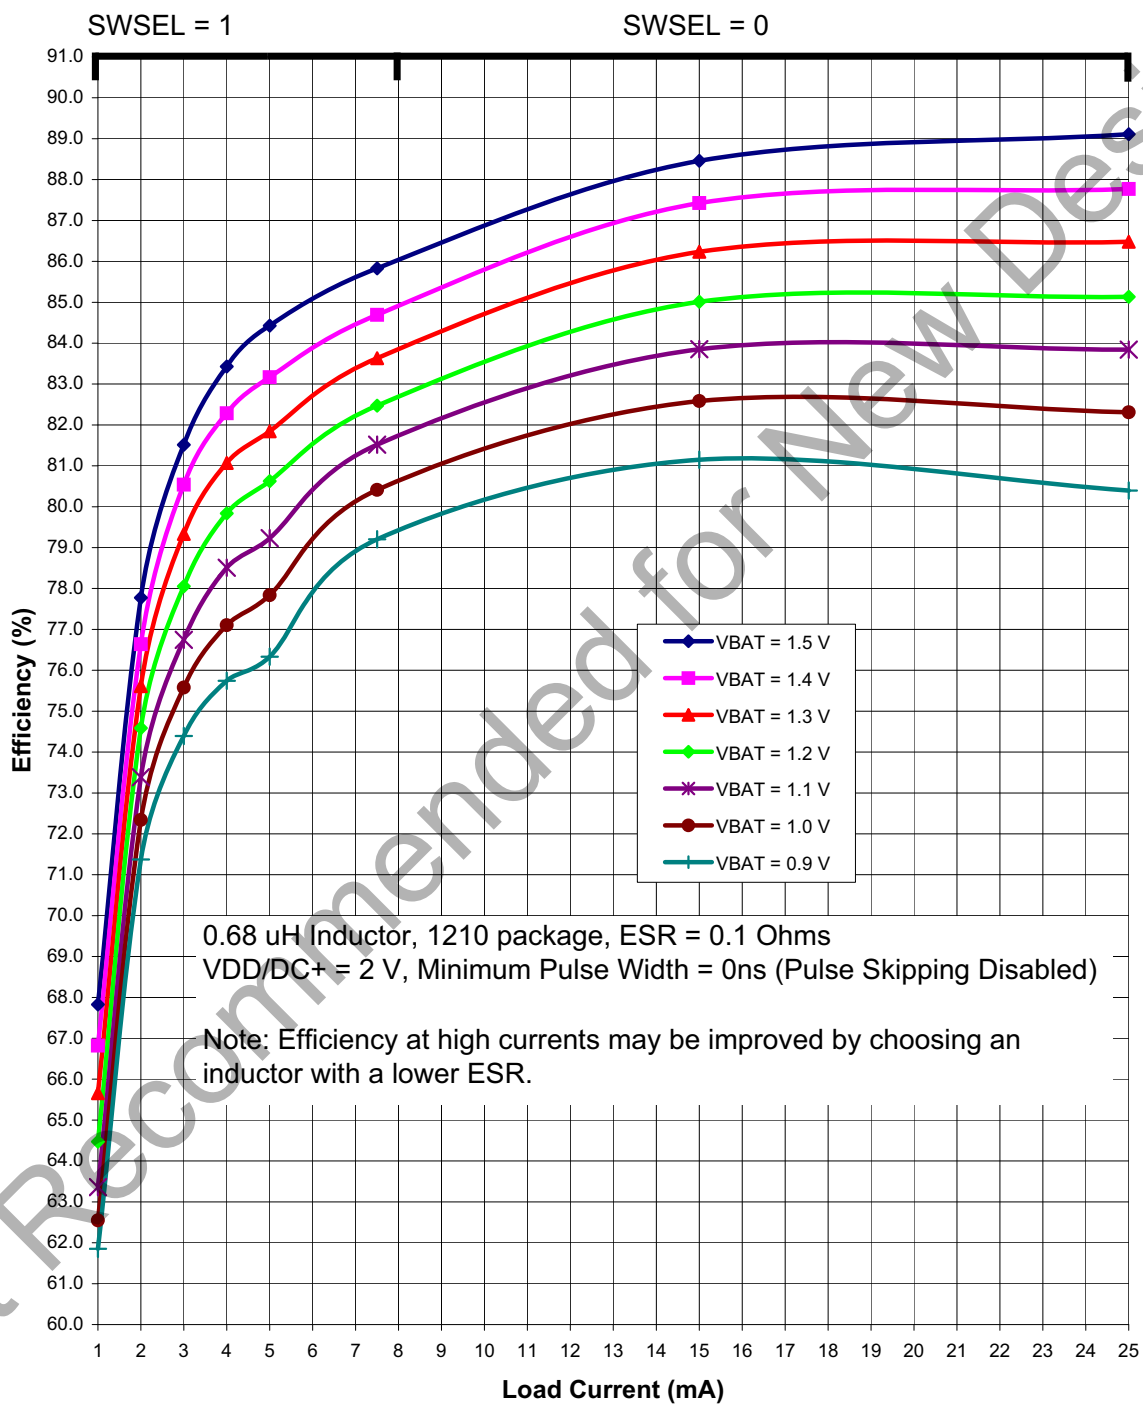
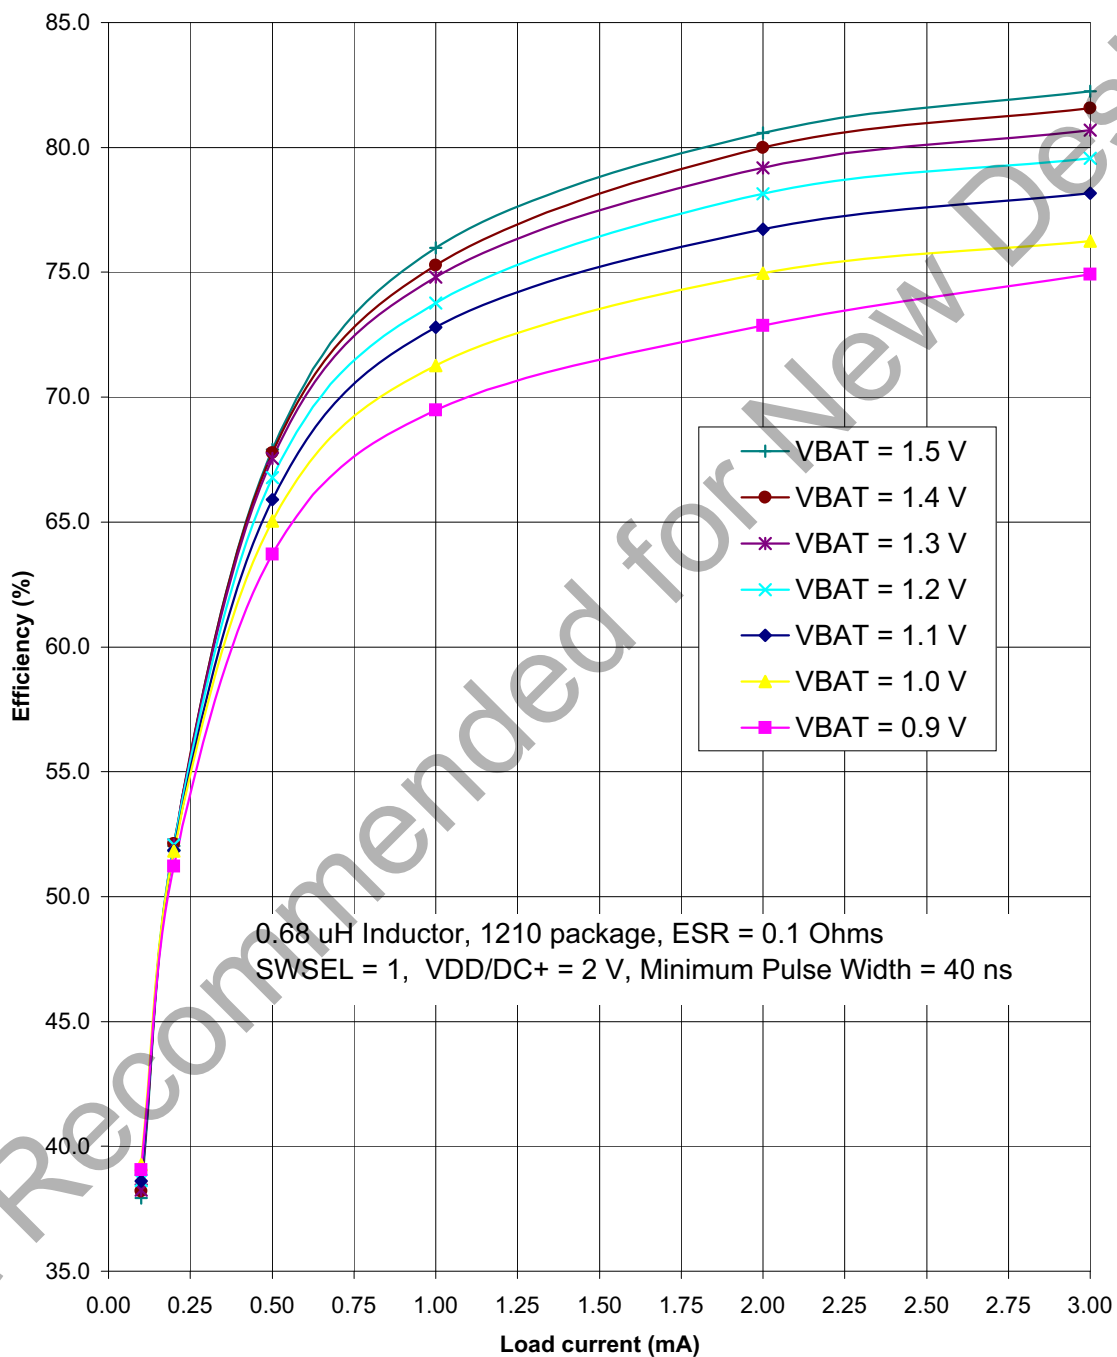

Figure 4.3. Typical DC-DC Converter Efficiency (High Current, VDD/DC+ = 2 V)
Figure 4.5. Typical DC-DC Converter Efficiency (Low Current, VDD/DC+ = 2 V)
<ol style="list-style-type: none"> <li>Based on device characterization data; Not production tested.</li> <li>SYSCLK must be at least 32 kHz to enable debugging.</li> <li>Digital Supply Current depends upon the particular code being executed. The values in this table are obtained with the CPU executing a "sjmp \$" loop, which is the compiled form of a while(1) loop in C. One iteration requires 3 CPU clock cycles, and the flash memory is read on each cycle. The supply current will vary slightly based on the physical location of the sjmp instruction and the number of flash address lines that toggle as a result. In the worst case, current can increase by up to 30% if the sjmp loop straddles a 128-byte flash address boundary (e.g., 0x007F to 0x0080). Real-world code with larger loops and longer linear sequences will have few transitions across the 128-byte address boundaries.</li> <li>Includes oscillator and regulator supply current.</li> <li>IDD can be estimated for frequencies <math>\leq 10</math> MHz by simply multiplying the frequency of interest by the frequency sensitivity number for that range, then adding an offset of 90 <math>\mu</math>A. When using these numbers to estimate <math>I_{DD}</math> for <math>&gt;10</math> MHz, the estimate should be the current at 25 MHz minus the difference in current indicated by the frequency sensitivity number. For example: <math>V_{DD} = 3.0</math> V; <math>F = 20</math> MHz, <math>I_{DD} = 4.1</math> mA – <math>(25 \text{ MHz} - 20 \text{ MHz}) \times 0.120 \text{ mA/MHz} = 3.5</math> mA.</li> <li>The Supply Voltage is the voltage at the VDD_MCU pin, typically 1.8 to 3.6 V (default = 1.9 V). Idle IDD can be estimated by taking the current at 25 MHz minus the difference in current indicated by the frequency sensitivity number. For example: <math>V_{DD} = 3.0</math> V; <math>F = 5</math> MHz, Idle <math>I_{DD} = 2.5</math> mA – <math>(25 \text{ MHz} - 5 \text{ MHz}) \times 0.095 \text{ mA/MHz} = 0.6</math> mA.</li> <li>The supply current specifications in Table 4.2 are for two cell mode. The VBAT current in one-cell mode can be estimated using the following equation:  <math display="block">\text{VBAT Current (one-cell mode)} = \frac{\text{Supply Voltage} \times \text{Supply Current (two-cell mode)}}{\text{DC-DC Converter Efficiency} \times \text{VBAT Voltage}}</math> <p>The VBAT Voltage is the voltage at the VBAT pin, typically 0.9 to 1.8 V.  The Supply Current (two-cell mode) is the data sheet specification for supply current.  The Supply Voltage is the voltage at the VDD/DC+ pin, typically 1.8 to 3.3 V (default = 1.9 V).  The DC-DC Converter Efficiency can be estimated using Figure 4.3–Figure 4.5.</p> </li> <li>The EZRadioPRO peripheral is placed in Shutdown mode.</li> </ol>